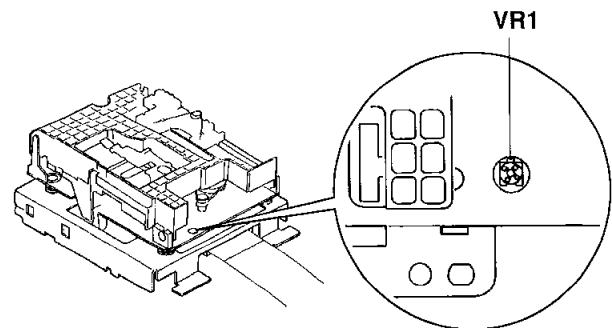

Fig. 4
4. Confirm that the reading of the laser power meter or cartridge type laser power meter is within the specified range. If it is not within the specified range, adjust by turning **VR1** (see Fig. 4).
6. Confirm that the reading of the laser power meter or cartridge type laser power meter is within the specified range. If it is not within the specified range, adjust by turning **VR1** (see Fig. 4).